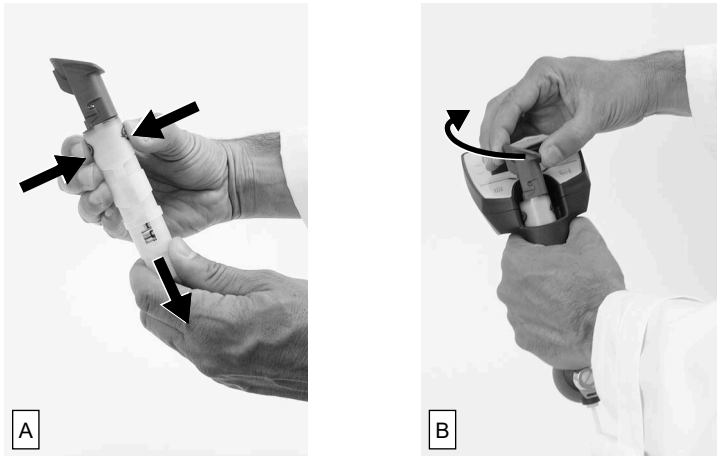

Fig. 12: **A:** Releasing a locked pump | **B:** Remounting the pump
1. If the pump shaft has been locked, release the lock (see fig. 12, A):
2. Insert the pump with the pump lever's top pointing to the left (see fig. 12, B).